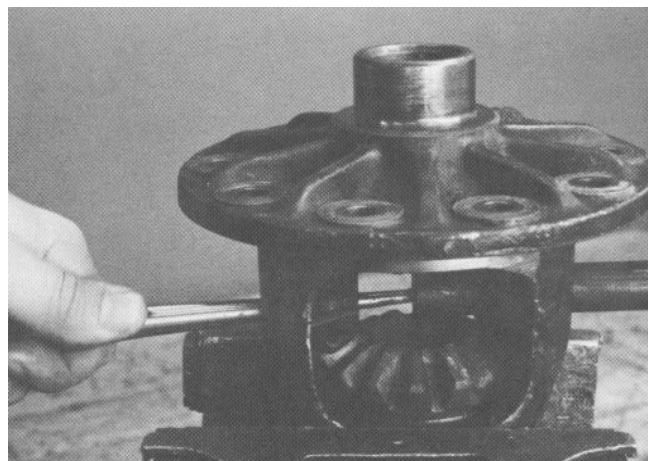

Figure 25
7. While supporting the differential in a vise, drive the pinion mate shaft from the differential with a long drift punch (Fig. 25).